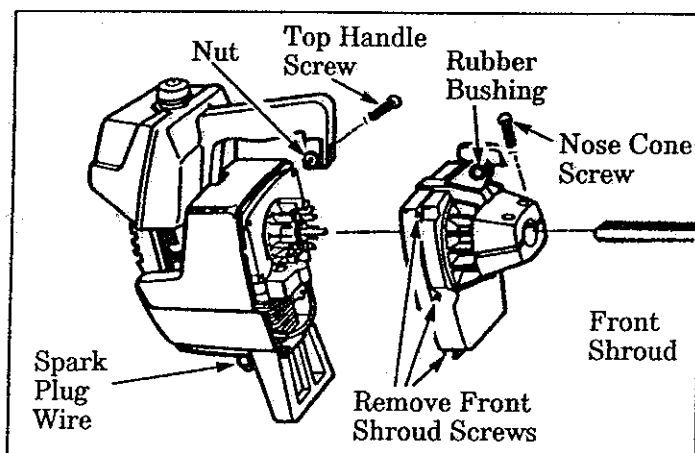

Figure 24
1. Disconnect Spark Plug Wire. Figure 24.
2. Loosen the two "Nose Cone" Screws and remove Drive Shaft Housing from the Front Shroud. Figure 24.
3. Remove the six Front Shroud Screws with the small hex wrench provided. Figure 24.
4. Remove the Top Handle Screw and Nut, and remove the Steel Spacer from the Rubber Bushing on the Handle Mount. Figure 24.
5. Separate the Front Shroud from the Engine. Figure 24.